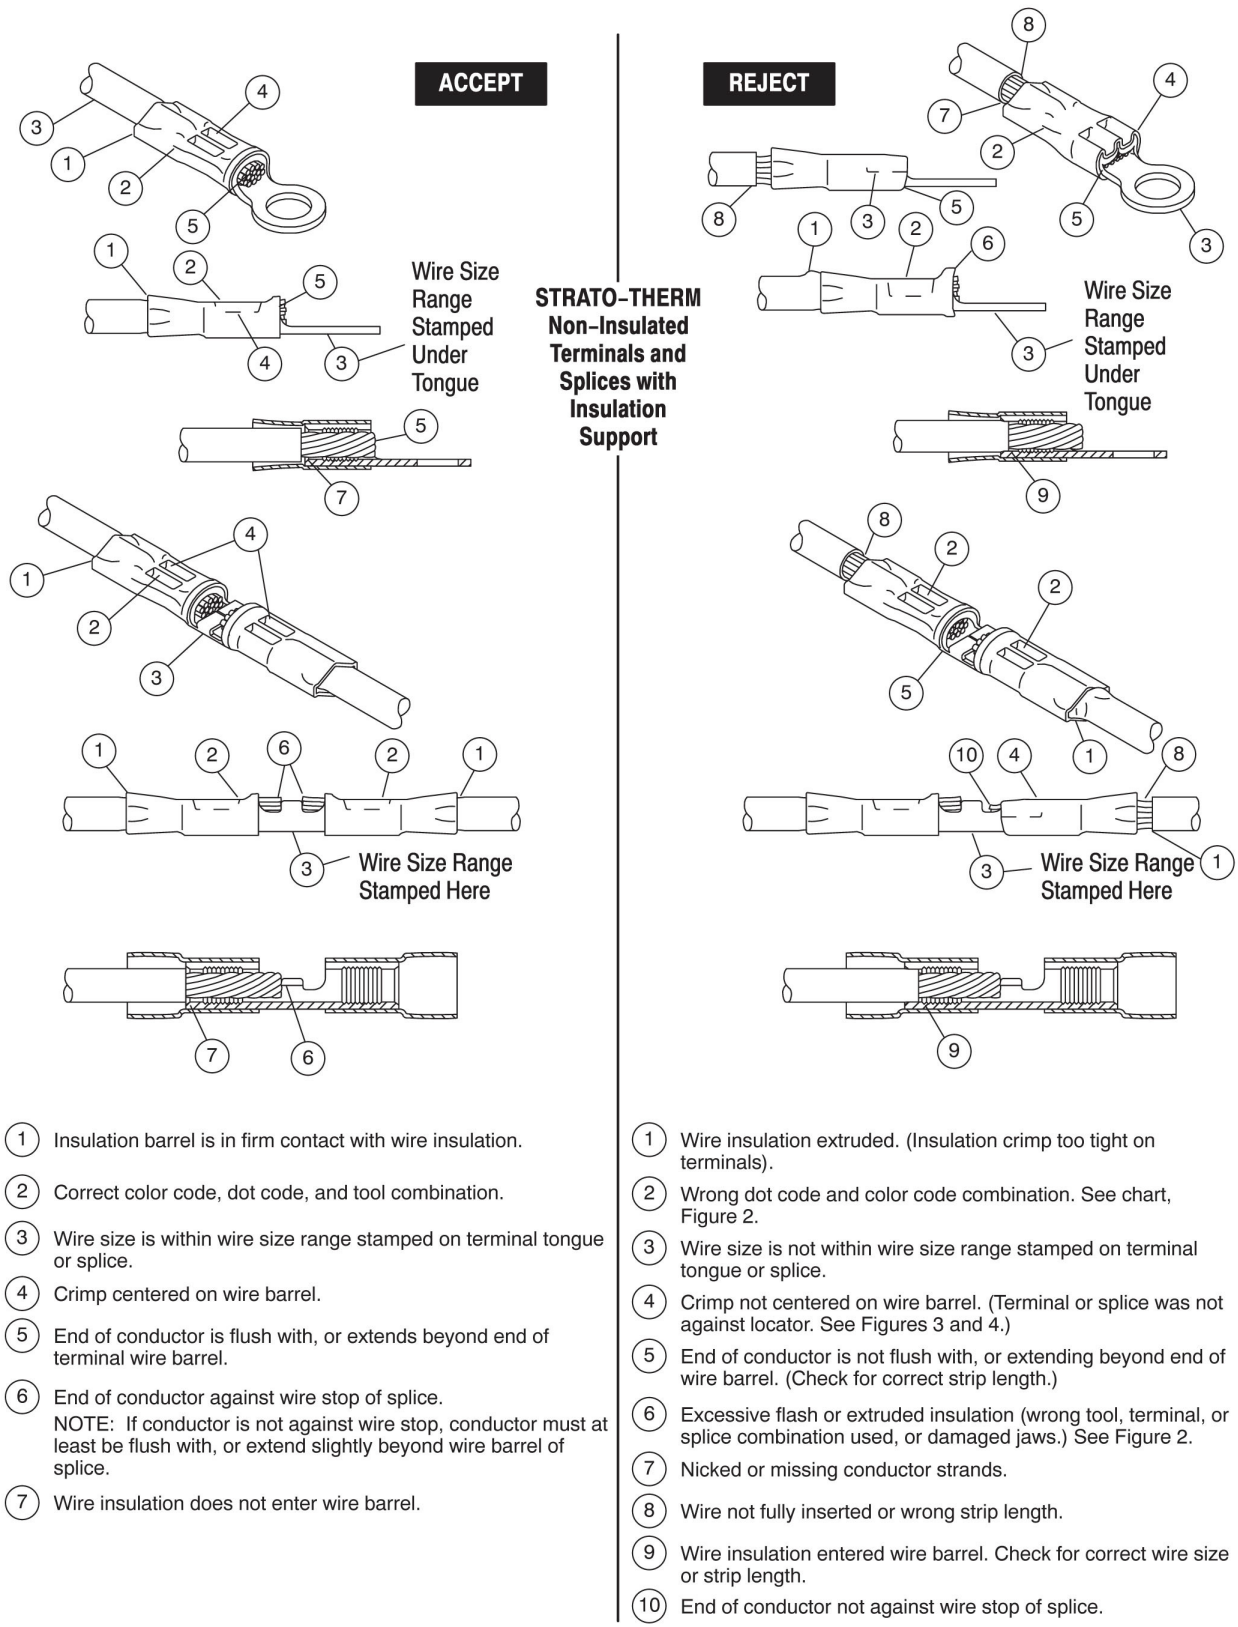

Figure 6
7. Refer to Section 5 and Figure 6 for crimp inspections
6. Refer to Section 5 and Figure 6 for crimping inspection.
Inspect crimped terminals and splices by checking the features described in Figure 6. Use only the terminals and splices that meet the conditions in the “ACCEPT” column.